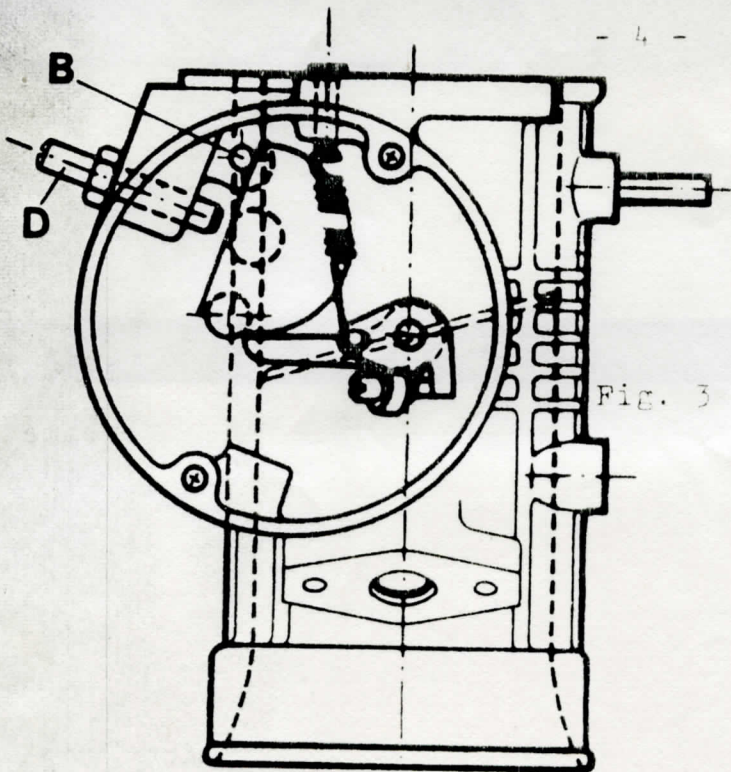

Fig. 3
- (e) Adjusting the corresponding throttle valve position: Insert 4-mm diameter set pin into the bore (B) in the casing. Press the eccentric lever slightly with the finger so that the flat front surface just touches the set pin - there should be no play. The idling stop screw (D) must not touch the lever (Fig. 3).
- (f) Tighten the hexagonal-head bolts (C) at the clamp unit. In so doing, the eccentric shaft in the throttle valve stub must be pushed down. The clearance between the clamp unit and the throttle valve stub must not exceed 1.5 mm.